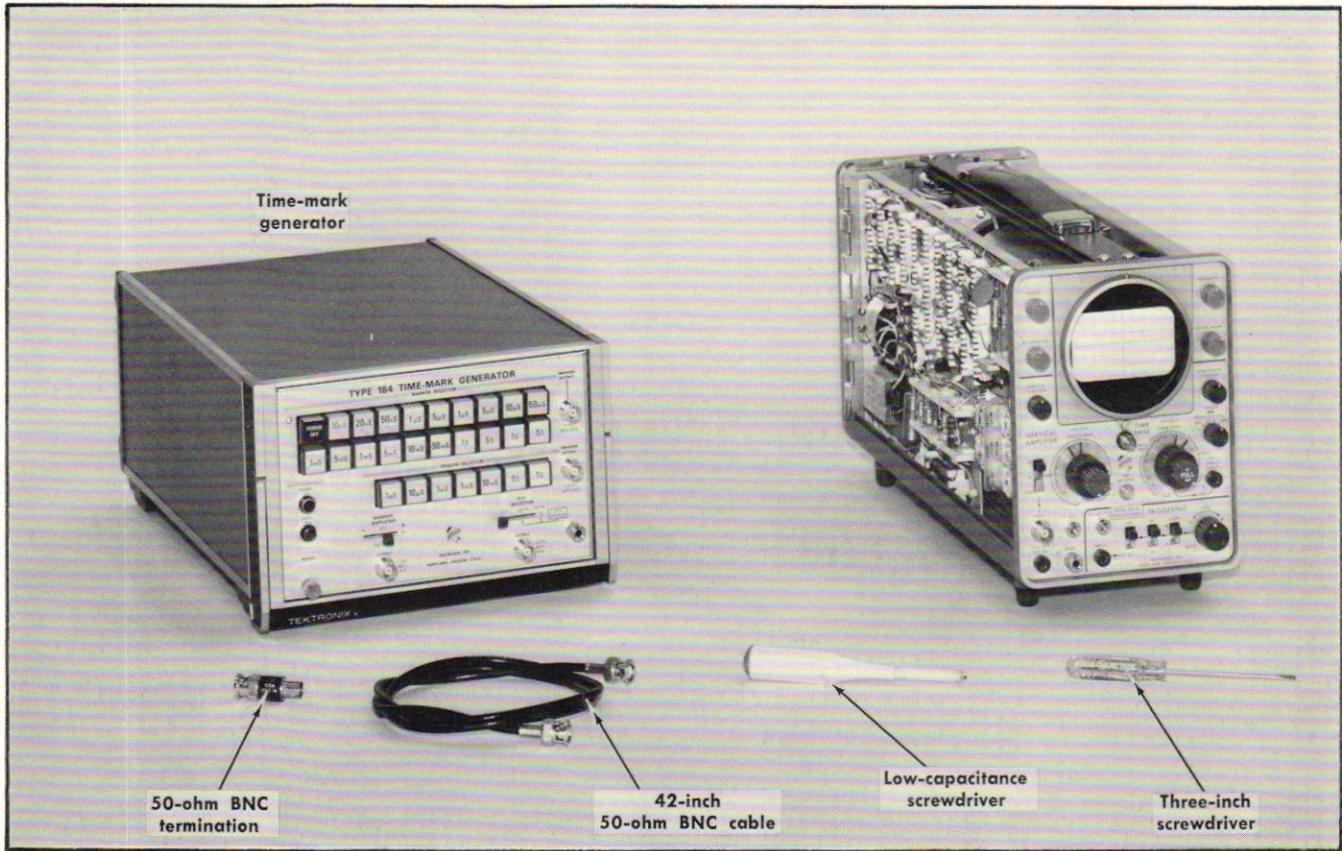

Fig. 5-15. Equipment required for steps 29 through 36.
- a. Equipment required for steps 29 through 36 is shown in Fig. 5-15.